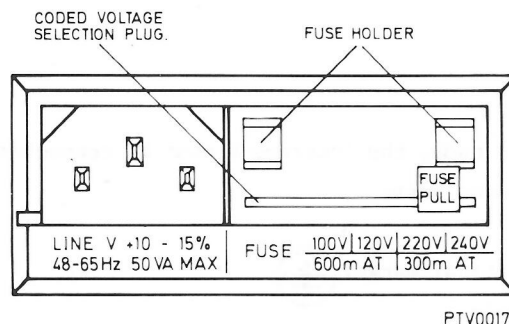

Fig. 6-1 Mains connector
- Slide the protective plastic cover to the left to expose the fuse and coded mains plug. (See fig. 6-1).